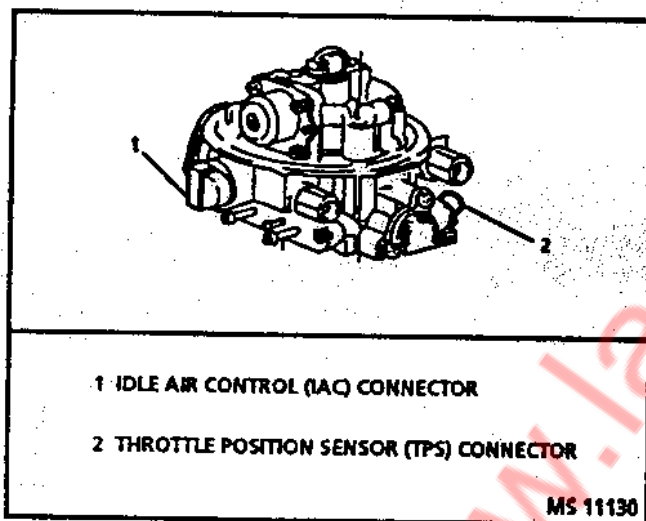

Figure 3.2-10 Throttle Body Injection Wiring
1. Electrical connectors for idle air control valve, throttle position sensor, and fuel injector (Figure 3.2-10);